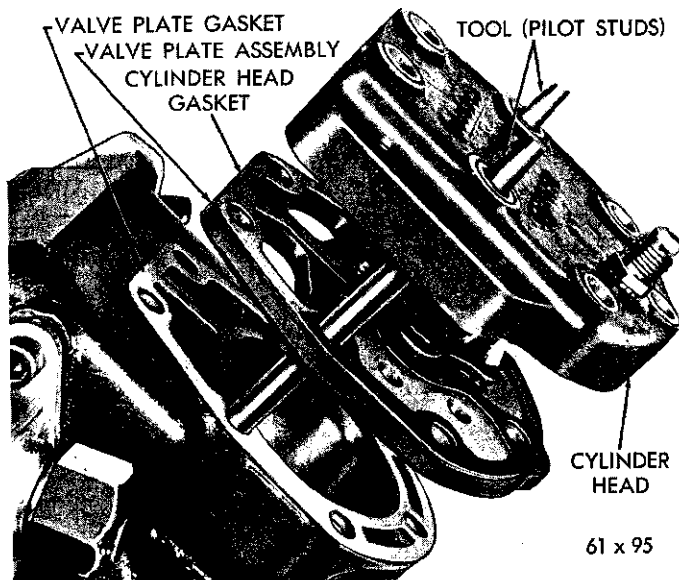

Fig. 39—Installing the Valve Plate and the Cylinder Head
- (2) Dip the gaskets in clean refrigerant oil. Using the pilot studs as a guide, install the valve plate gasket, valve plate, cylinder head gasket and cylinder head, as shown in Fig. 39.
- (3) Install the attaching bolts. Tighten each bolt alternately and evenly 23 to 27 foot-pounds torque.